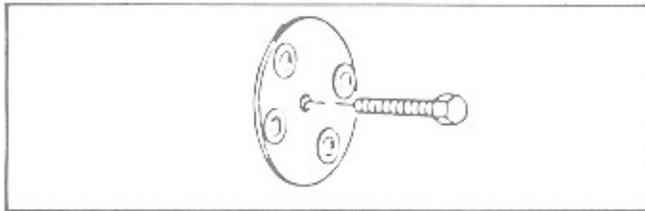

Figure 2-1. Shipping Bolt Removal
1. Remove the record changer mechanism shipping bolt from the back of the phonograph cabinet (see figure 2-1).